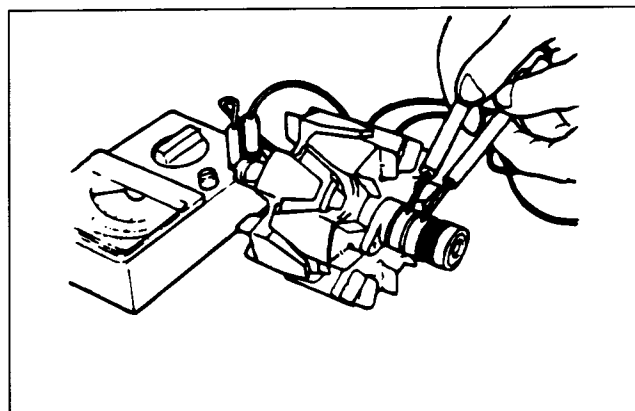

Figure 54
10. Check the field coil for continuity between the slip rings (Fig. 54). If there is no continuity, replace the field coil.